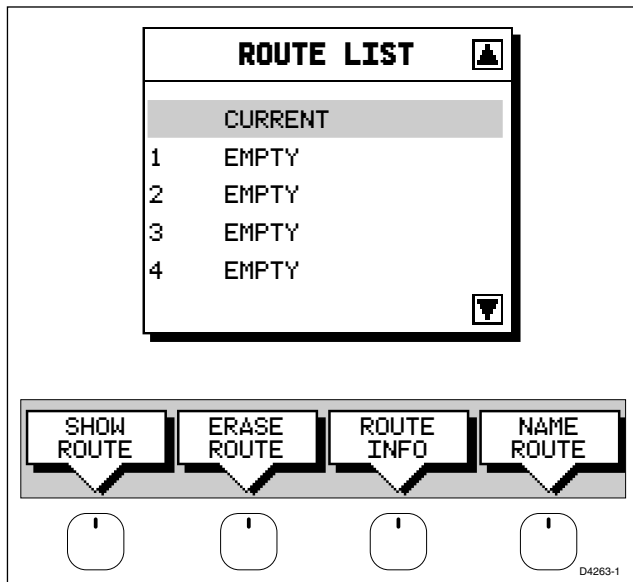

Figure 3-7: Route List Window
1. Press the ROUTE soft key, followed by MORE, then press ROUTE LIST. The route list is displayed as illustrated in *Figure 3-7*. The selection bar indicates the selected route.